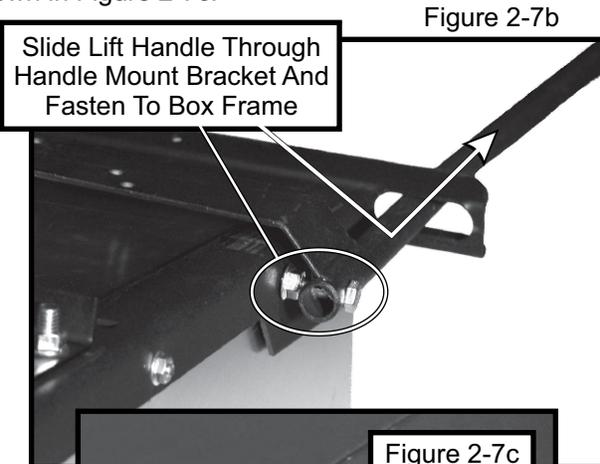

Figure 2-7b
Slide the lift handle through the slot on the handle mount bracket. Insert the lift handle into the box frame as shown in Figure 2-7b, and secure using (1) 3/8"-16 flange nut P#(K1215) on the inside of the container as shown in Figure 2-7c.